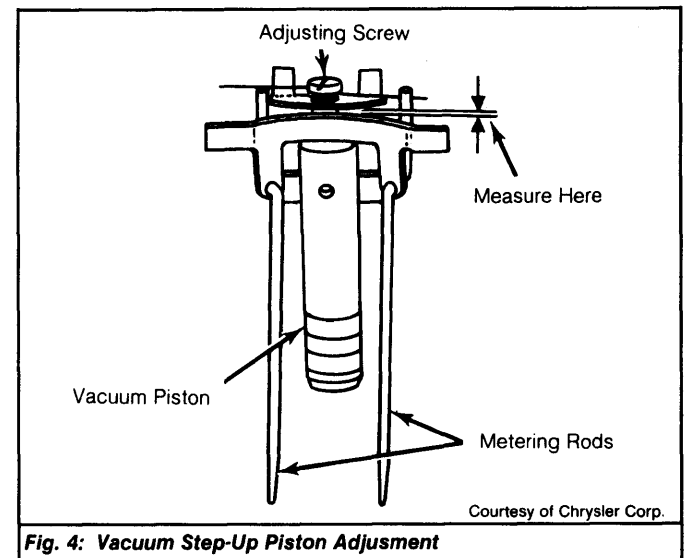

Fig. 4: Vacuum Step-Up Piston Adjustment
- 2) Loosen lifter lock screw. See Fig. 4. Fully depress piston in bore while holding pressure against rod lifter tab. Tighten lifter lock screw.